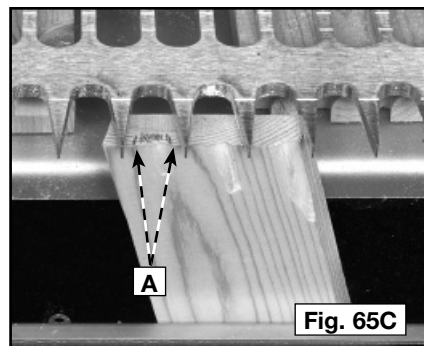

Fig. 65C
- Step 5** - Rotate the template so that the angled fingers for cutting the pins is facing you. Mount the pin board with the outside surface facing away from the base of the jig. Center the marks on the end of the board between the angled fingers of the template (A) Fig. 65C.
- Step 6** - the end of the board between the angled fingers of the template (A) Fig. 65C.